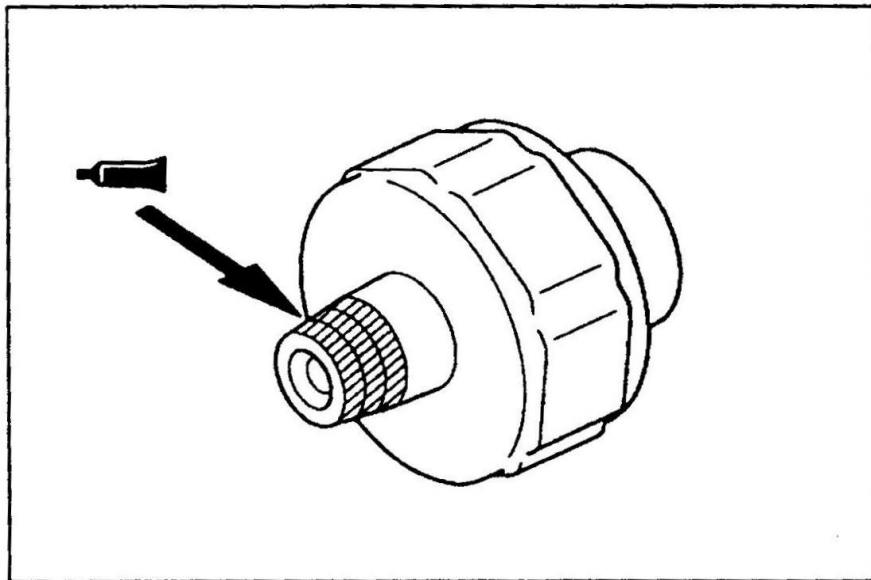

图 5-6
(7) Apply the specified sealant to the thread of oil pressure switch (See Fig 5-6) .